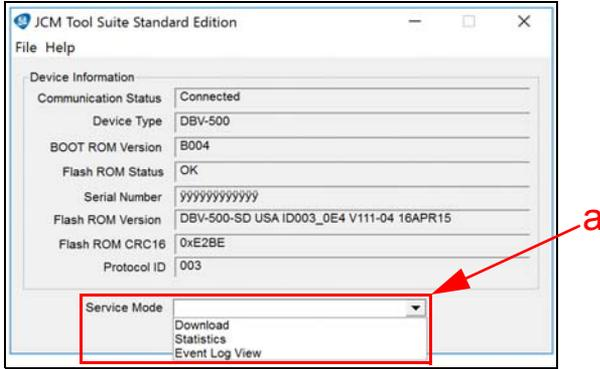
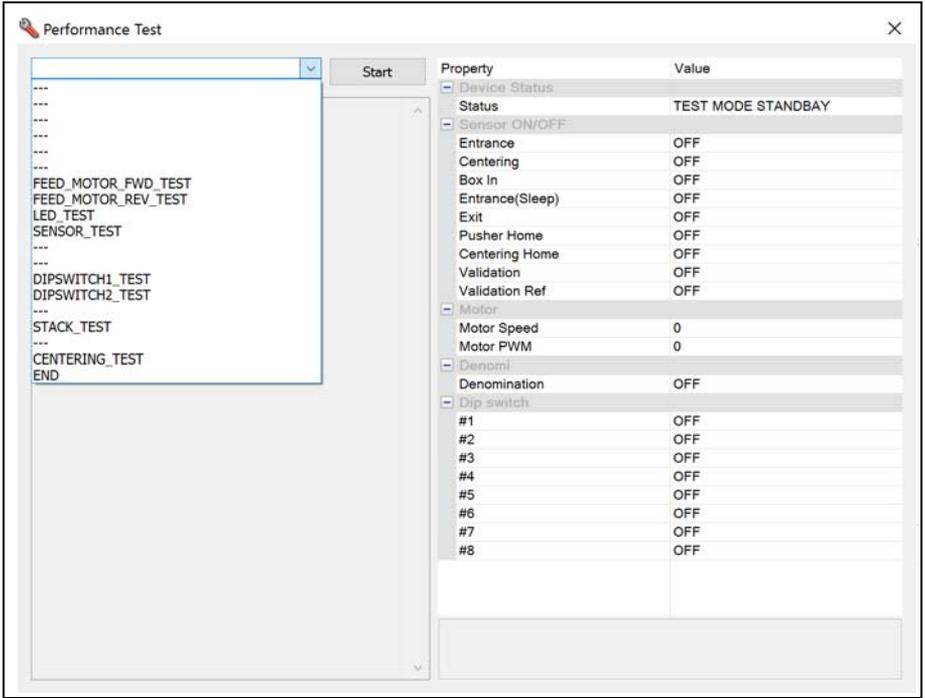

Figure 5 JCM Service Mode Drop-Down Menu
Figure 7 JCM Tool Suite Performance Test Window
1. Click the “Service Mode” drop-down menu (Figure 5 a), then click “Download.”
7. Click the Service Mode drop-down menu (Figure 5), then select Performance Test (refer to Figure 7 on the following page).
6. Click the Service Mode drop-down menu (Figure 5), then click Sensor Adjustment.